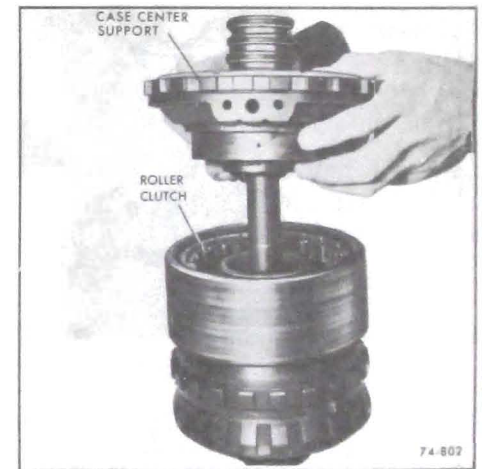

Figure 76-558
1. Remove case center support assembly. See Figure 76-558.